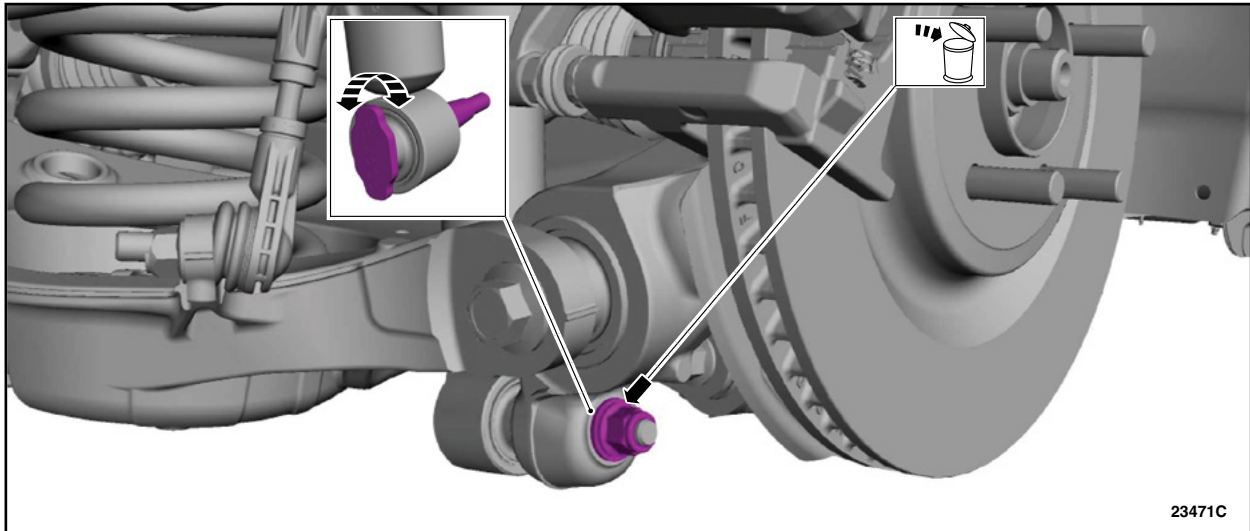

FIGURE 3
7. Remove and discard the LH rear shock absorber lower nut. See Figure 3.